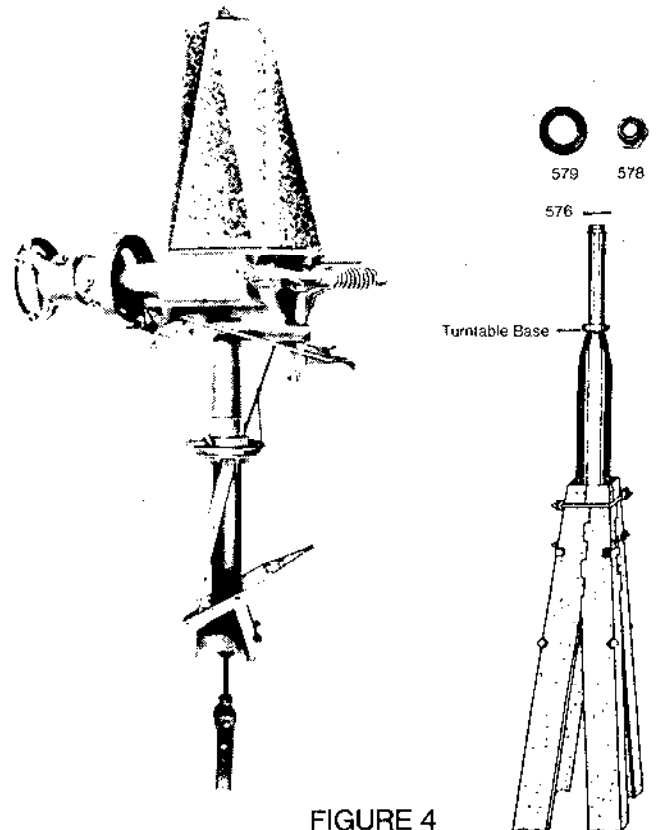

FIGURE 4
1. Put the mast pipe into the top of the tower (see Figure 1, Page 3) and put a short bolt in the base on the corner post to which the furl handle at the foot of the tower is to be attached. With the two long bolts attach the supporting angles of the furl lever to the side opposite the one on which the furl handle is to be so the furl wire will pull across the tower and clear the inner edge of the platform. (Figure 4)
2. Remove the locknut #578 and lockwasher #579 from the top of the mast pipe (Figure 4). GREASE PACK THE FRICTION WASHERS #576 IN THE TURNTABLE BASE AND ALSO THE MAST PIPE STEM.